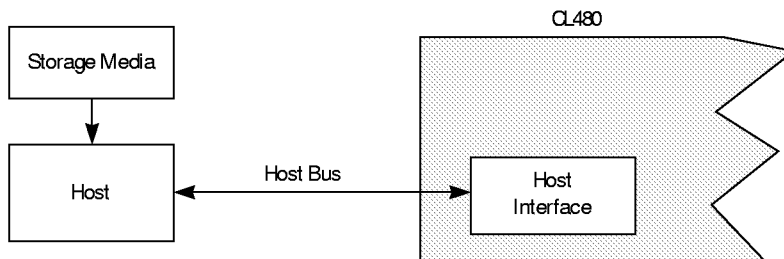

Figure 4-4 Sending Coded Data on Host Interface
- Parallel mode (through the host interface) as shown in Figure 4-4 and described in this section.